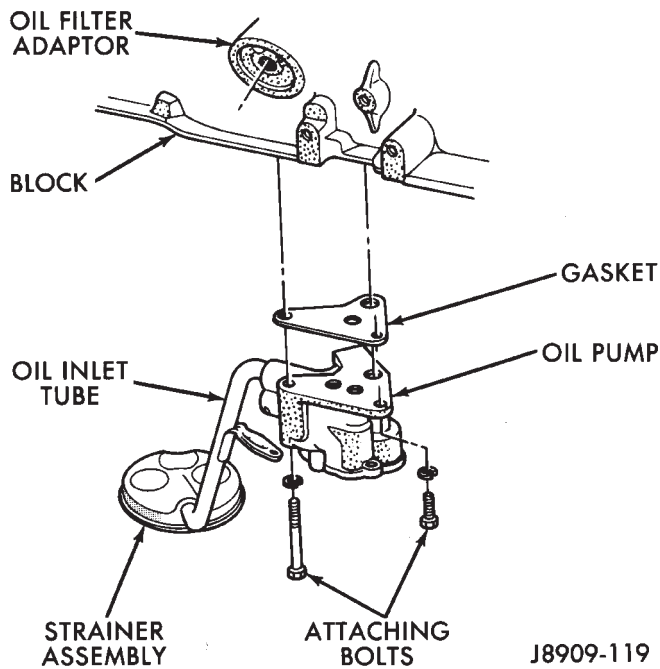

Fig. 4 Oil Pump Assembly
(1) Drain the engine oil.
(2) Remove the oil pan.
(3) Remove the pump-to-cylinder block attaching bolts. Remove the pump assembly with gasket (Fig. 4).